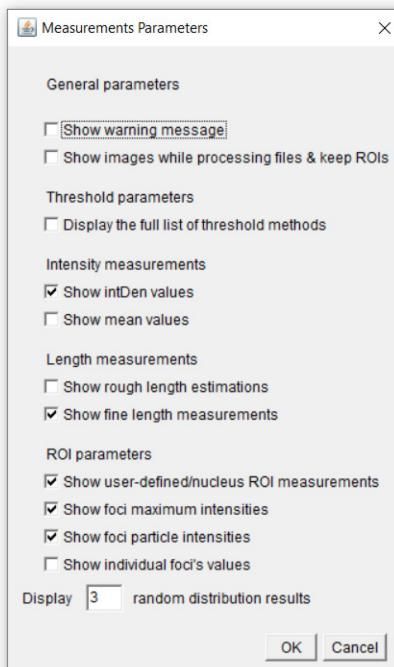

Figure 6.3. The (general) parameters window.
parameters button to set how the skeletons will be measured. The Parameters menu (figure 6.3) will pop-up.
- The default parameters hide the images during the analysis. To have them displayed, use the set Measurements Parameters of the main meiosis bar. In the parameters window (fig. 6.3), select “show images while processing files” option.